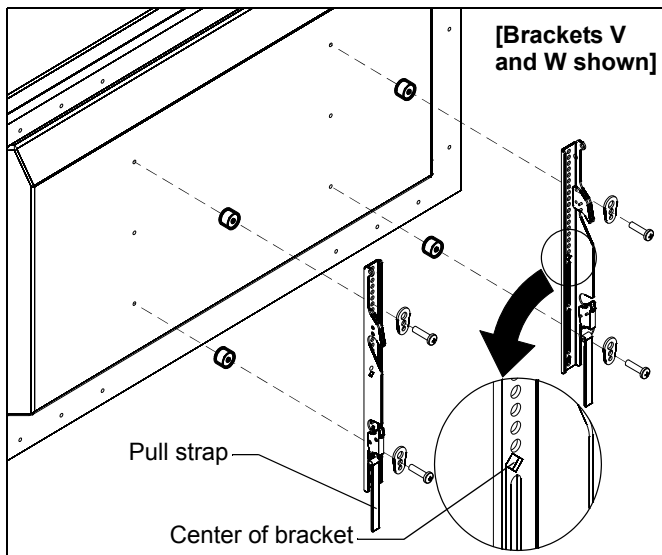

Figure 5
1. Align the center of the bracket with center of screen. (See Figure 5)
2. Select correct screws, spacers (if necessary) and universal washers from the hardware bag (A-N) for MSMU/MTMU models; **OR** from the hardware bag included for MSM3XXX/MTM3XXX models, and attach brackets to back of screen. (See Figure 5)